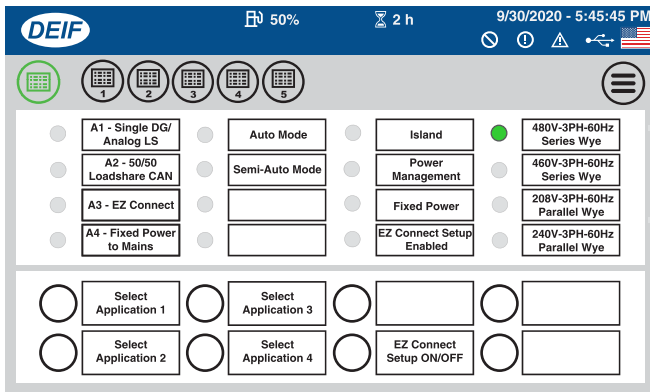
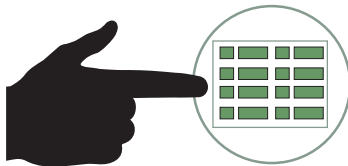

Figure 47. Main AOP Screen
Figure 48. Main AOP Button
2. Verify that the **Main AOP screen** (Figure 47) is displayed.
3. If the Main AOP screen (Figure 47) is not displayed, press the **Main AOP button** (Figure 48).